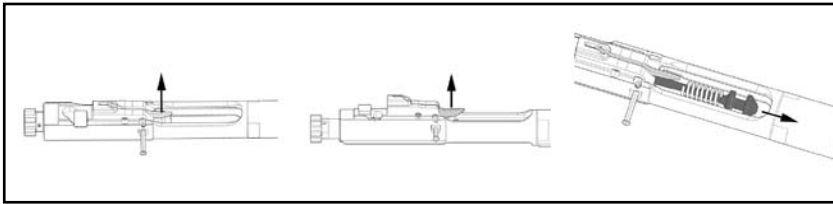

Fig. 26 – Drift out the Firing Pin Retaining Pin
- d. Lift up on the spring loaded drop safety and remove the firing pin and firing pin spring (Fig. 26).